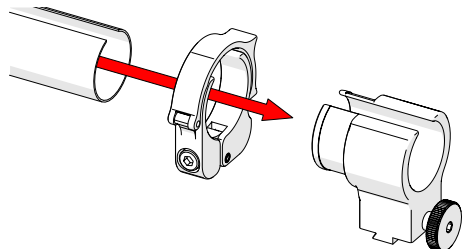

Fig. 77 - Slide tube around mount
2. Slide the clamp around the tube first, and then slide the tube around the outside of the cable management dovetail mount (Fig. 77). Align the zipper opening and the cable management dovetail mount opening.